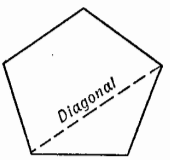

Fig. 54
48. A *Diagonal* is a straight line joining the opposite angles, or angles not adjacent, of any polygon. Fig. 54.